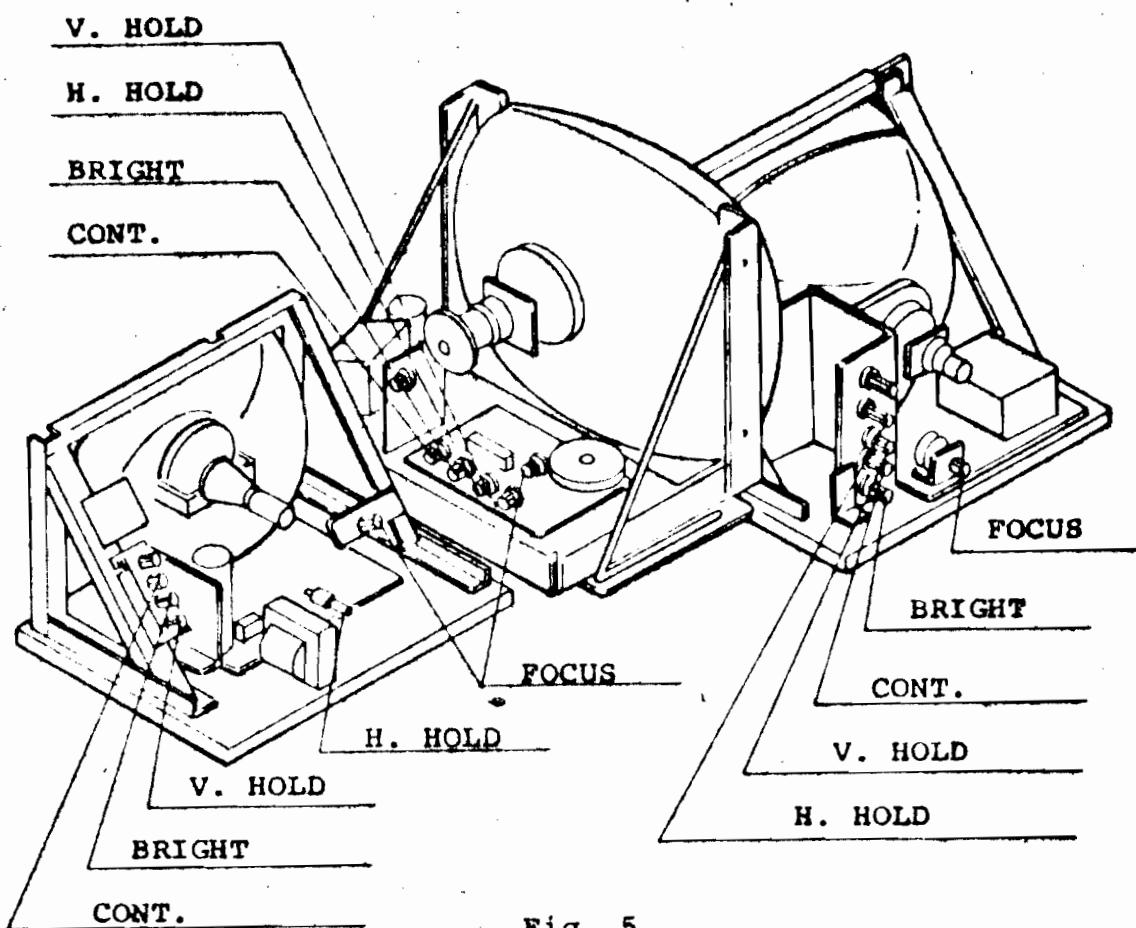

Fig. 5
8. Adjustments on TV Monitor (See Fig. 5)